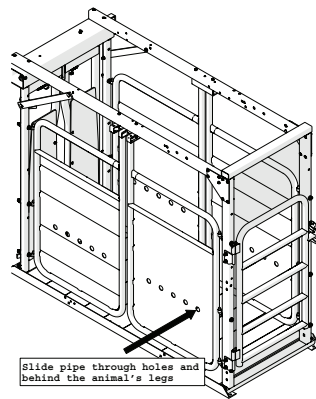

Figure 3: Holes in gates
2. Slide a pipe (smaller than a 1.50" diameter) through the holes in the gates behind the back legs of the animal. This will prevent the animal from backing out of the chute or kicking the operator (Figure 3).